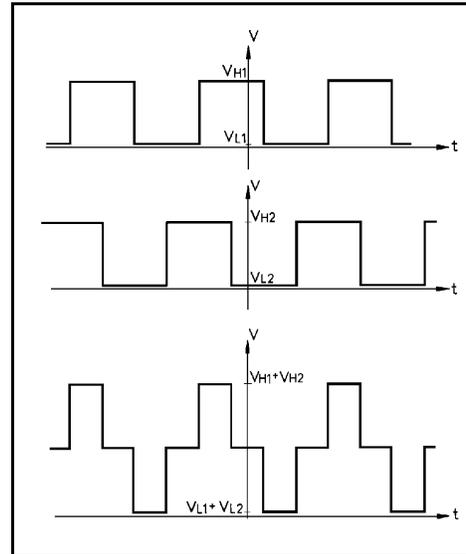

Figure 8-4: Encoder Signals
- Using an oscilloscope, check the signals (P_0 and P_1) received from the encoder's two phototransistors. Figure 8-4 shows the wave diagrams which emanate from the two channels of the encoder (P_0 and P_1) with respect to the time axis. The top two signals should be clean square waves: